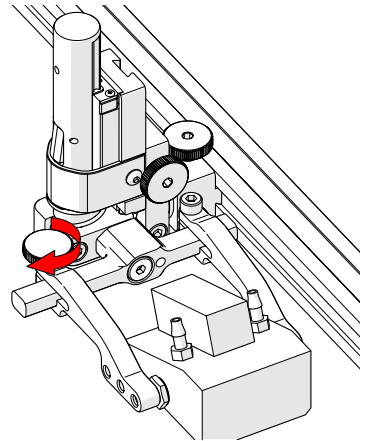

Fig. 176 - Tighten arm knob
6. Tighten the probe holder arm adjustment knob (Fig. 176).